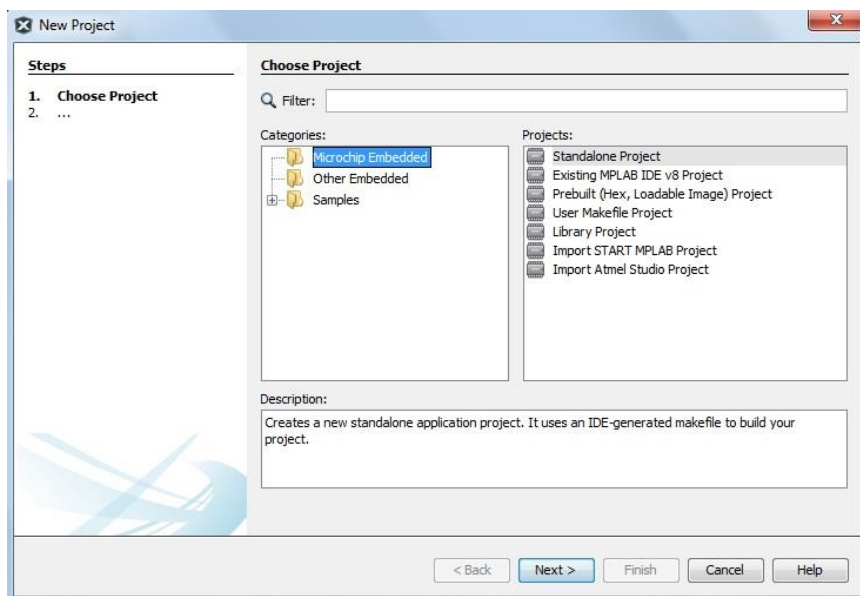

Fig 4.8 New Project Window
3. In the File menu select the “New Project” option. The following window opens as shown in Fig 4.8.